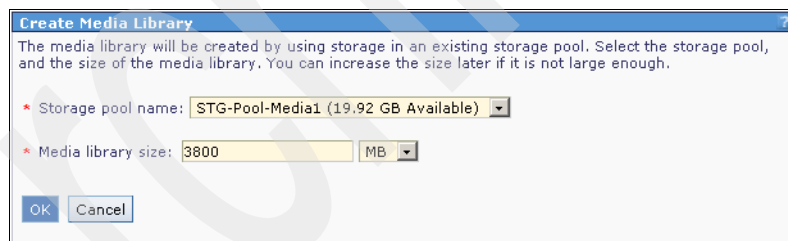

Figure 4-5 Media library - specify library size and volume group
5. Specify the storage pool that will contain the logical volume with the media library and the size of the media library. We used the volume group created in step 1 on page 150. The initial size was set to hold the AIX 6.1 DVD with a size of approximately 3.6 GB. See Figure 4-5. Click **OK**.